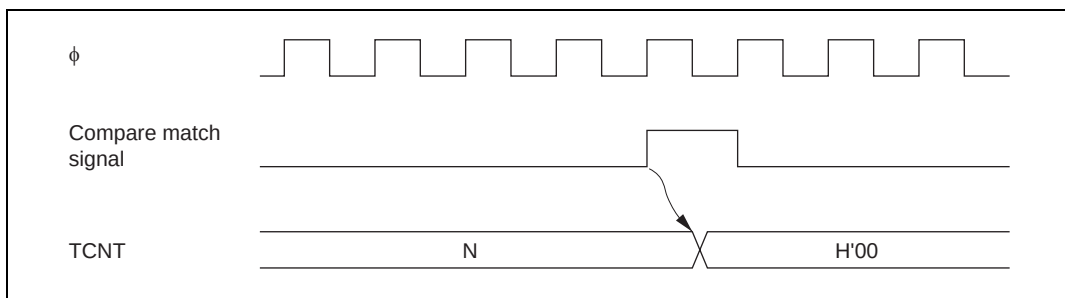

**Figure 10.6 Timing of Compare Match Clear**
**Timing of Compare Match Clear:** The timer counter is cleared when compare match A or B occurs, depending on the setting of the CCLR1 and CCLR0 bits in TCR. Figure 10.6 shows the timing of this operation.